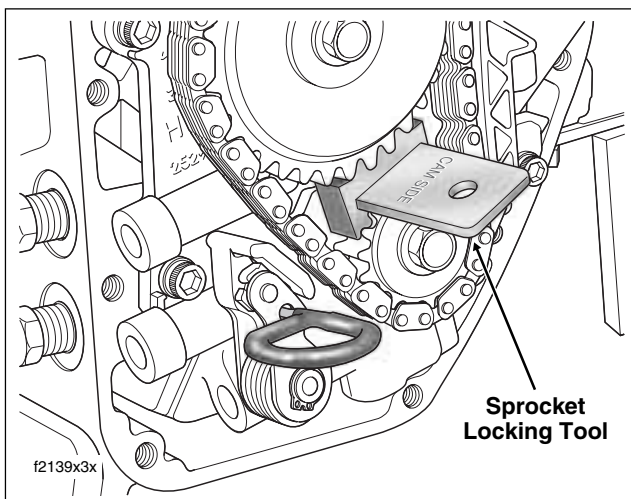

Figure 3-52. Lock Crank and Primary Cam Sprockets Before Tightening Flange Bolts
- c. To prevent rotation, position the CRANKSHAFT/CAMSHAFT SPROCKET LOCKING TOOL (HD-42314) between the crank and primary cam sprockets. See Figure 3-52. The handle of the tool is stamped "Crank" and "Cam" to ensure proper orientation. Tighten the crank and primary cam sprocket flange bolts to 15 ft-lbs (20.3 Nm). Remove the sprocket locking tool.
- h. Position CRANKSHAFT/CAMSHAFT SPROCKET LOCKING TOOL (HD-42314) between the crank and primary cam sprockets to prevent rotation. See Figure 3-52. The handle of the tool is stamped "Crank" and "Cam" to ensure proper orientation.